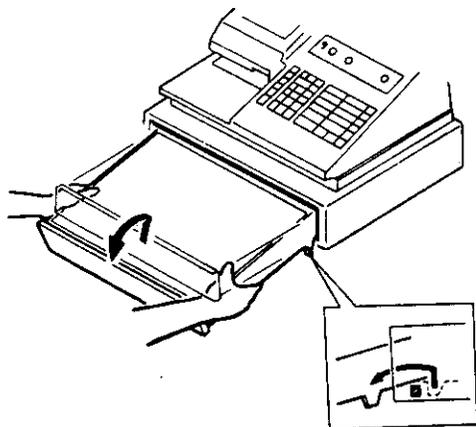

Fig. 2
1. Pull the drawer out, and when it stops by the stopper, lift the drawer up and pull it again (Fig. 2). When it stops again by the roller fixed in the drawer case, lift it and pull it again (Fig. 3).